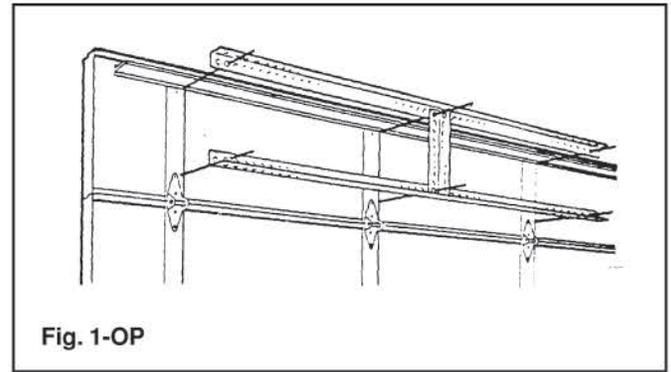
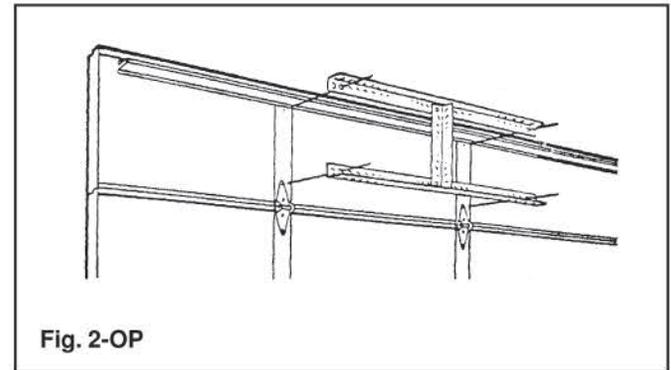
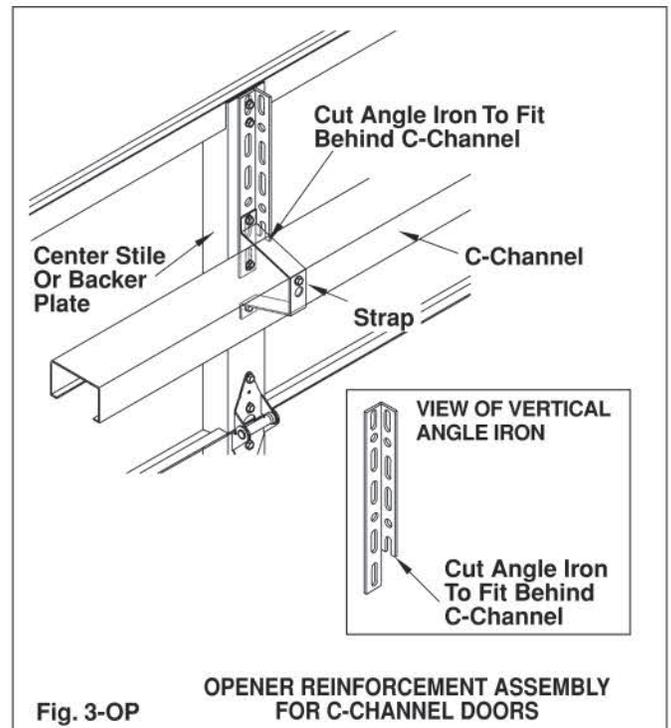

Fig. 1-OP
Fig. 2-OP
Fig. 3-OP
- Place remaining 8 ft. [244 cm] piece across the top of the section, bridging across the same three stiles as the bottom angle. Attach with fasteners similar to ones used with the hinges. One fastener per stile. If your door has a strut at the top of the section, remove the bottom strut fasteners and overlap the flange of the strut with the angle iron to secure the bottom of the strut. Attach angle using the fasteners removed with the strut (FIG. 1-OP) Refer to Figure 3-OP for C-Channel.
top of the section, remove the bottom strut fasteners and overlap the flange of the strut with the angle iron to secure the bottom of the strut. Attach angle using the fasteners removed with the strut. (FIG. 2-OP)
- Cut the 24" [610 mm] piece of punched angle iron to span from top horizontal angle to bottom horizontal angle. Place vertical angle directly in the center of the door. Attach vertical angle to both the top and bottom horizontal angles with two $\frac{3}{8}$ " [10 mm] nuts and two $\frac{3}{8}$ " [10 mm] bolts. Refer to Figure 3-OP for C-Channel.
1. Place two rollers in the tubes as shown. On some doors it will be necessary to try various roller positions to achieve the proper hinge location on the door. (FIG. 1-LHR)
NOTE: Proper alignment of the pass door frame is critical for smooth operation of the pass door. After stacking the bottom section, measure the pass door frame opening at the top and bottom of the frame (Figure 3-PD). If this measurement is not exactly the same, the bottom section will need to be shimmed or clamped so that the frame is aligned.
See Figure 1-PD (Deep Ribbed Steel Doors) or Figure 2-PD (Double Skinned Insulated Doors) for diagram of pass door showing hinge and closer locations. The strut schedule for pass doors follows the strut schedule on page 9, minus 2 struts.